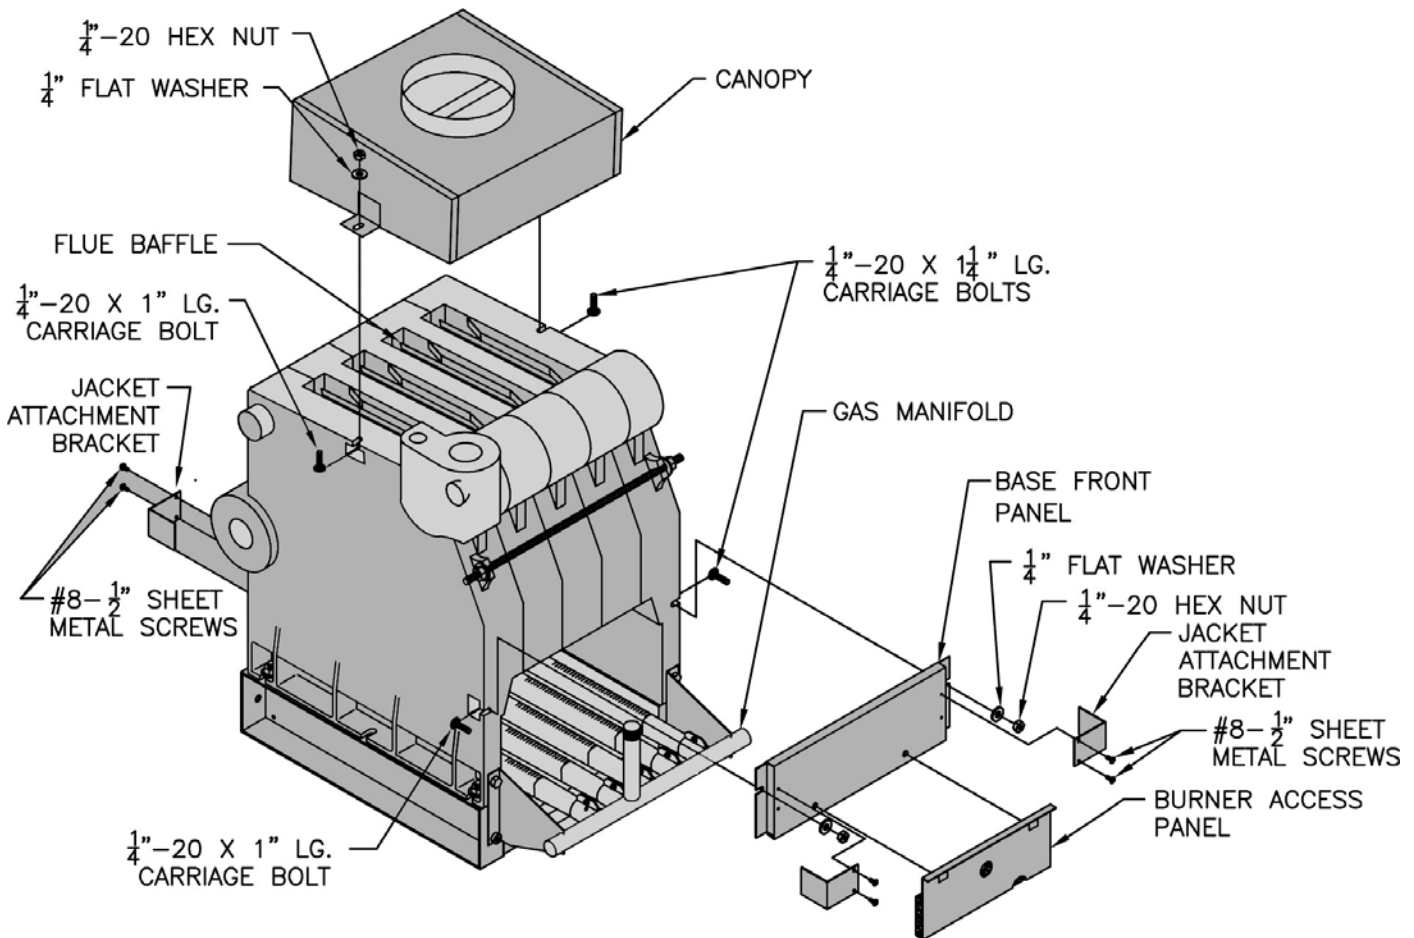
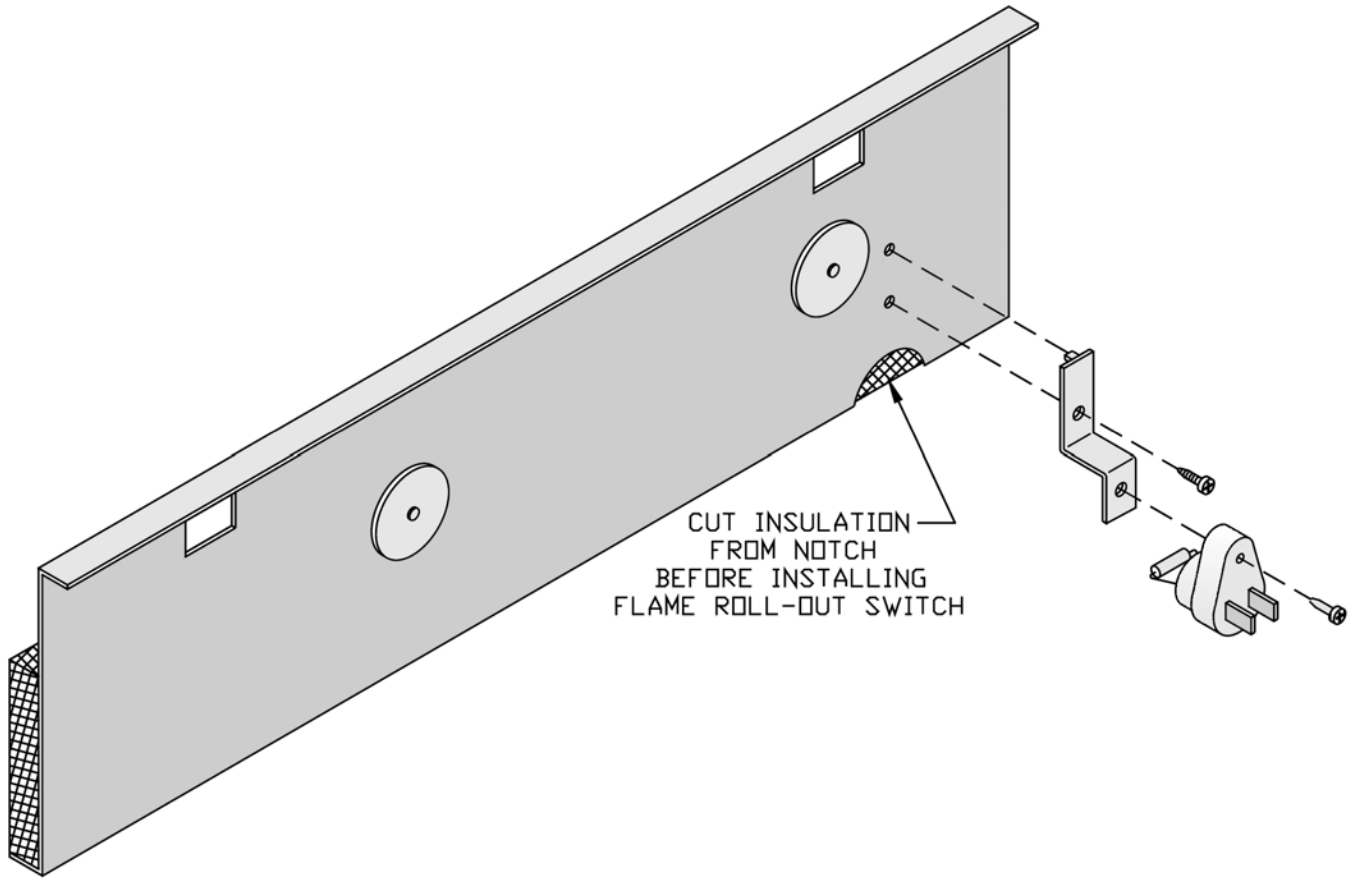
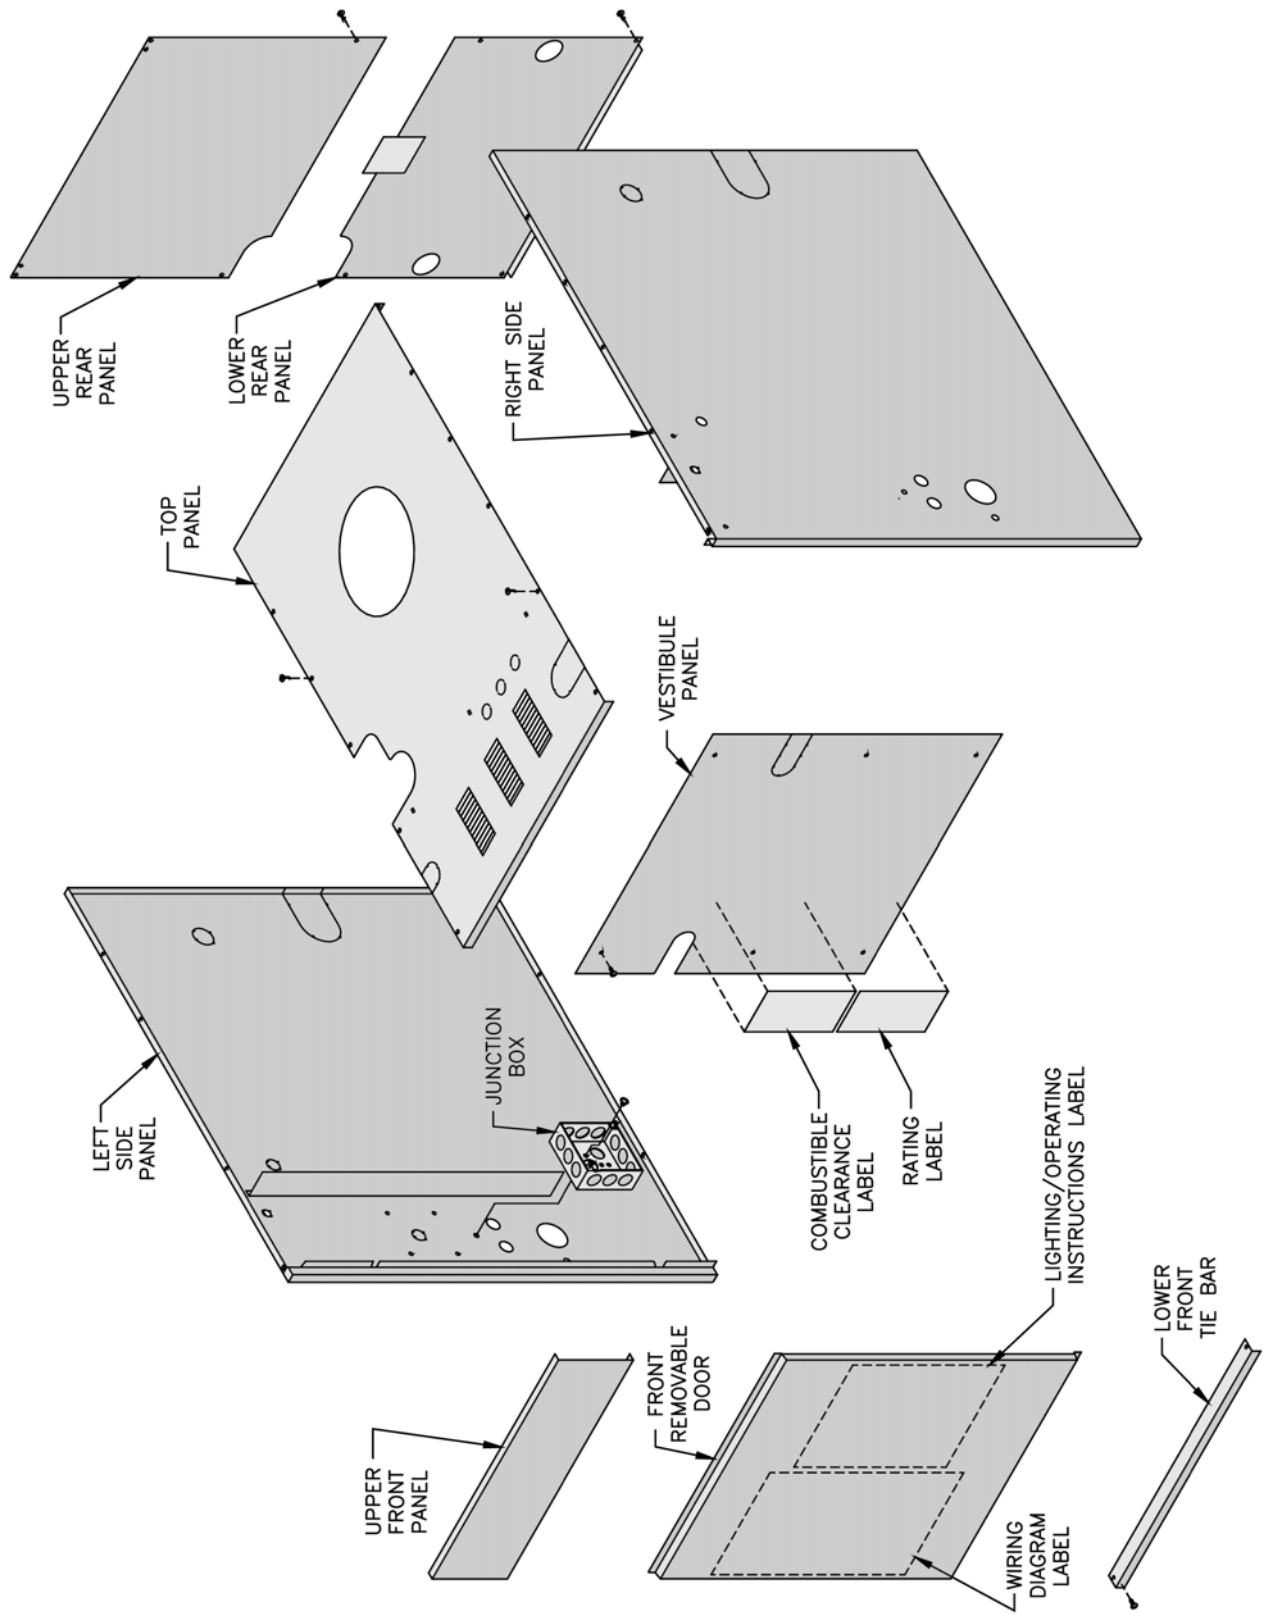

Figure 5: General Assembly (Knockdown Boilers)
Figure 6: Flame Roll-out Switch Installation
Figure 8: Jacket Assembly
G. Confirm that one (1) Flue Baffle is properly positioned in each Boiler Flueway. Tabs at the top of each Flue Baffle should be resting on top row of Flue Pins on each adjoining section.
H. Install Canopy on section assembly. See Figure 5. Canopy and hardware are located in Combination Boiler Parts and Control Carton.
J. Install Base Front Panel. See Figure 5. Panel and hardware located in Combination Boiler Parts and Control Carton.
M. Attach Flame Roll-out Switch to Burner Access Panel. See Figure 6. Flame Roll-out Switch and hardware are located in Combination Boiler Parts and Control Carton. Flame Roll-out Switch is a single use device - do not test with heat - switch cannot be reset.
1. Cut insulation from semicircular notch at right end of the burner access panel. Models 808HE - 810HE have two (2) burner access panels. Remove insulation from notch of right side burner access panel only.
2. Attach Flame Roll-out Switch Mounting Bracket to burner access panel with (1) #8 x 1/2" lg. sheet metal screw.
3. Attach Flame Roll-out Switch to mounting bracket with (1) #8 x 3/4" lg. sheet metal screw.
N. Install Burner Access Panel(s). Locate Burner Access Panel(s) in Combination Boiler Parts and Control Carton. Engage Burner Access Panel holes with projections on Base Front Panel. See Figure 5.
P. Install Jacket. See Figure 8.
1. Locate four (4) Jacket Attachment Brackets in Combination Boiler Parts and Control Carton. Attach to Front Base Panel and Rear Base Panels with #8 sheet metal screws. See Figure 5.
4. Attach Upper Rear Panel to Lower Rear Panel. Do not install three (3) upper screws.
Q. Install Junction Box. See Figure 8. Attach junction box to inside of Left Side Panel with 1/4" - 20 x 1/4" lg. machine screw (located in Combination Boiler Parts and Control Carton).
4. Mount Transformer (continuous circulation) or Control Center (intermittent circulation) to Junction Box. See Figure 8.
- a. Attach Ignition Control Mounting Bracket to Jacket Vestibule Panel using two (2) #8 x 1/2" sheet metal screws.
- b. Attach Honeywell Ignition Module to Mounting Bracket using two (2) #8 x 1/2" sheet metal screws.
- a. Attach Ignition Transformer to Jacket Vestibule Panel using (4) #8 x 1/2" lg. sheet metal Screws.